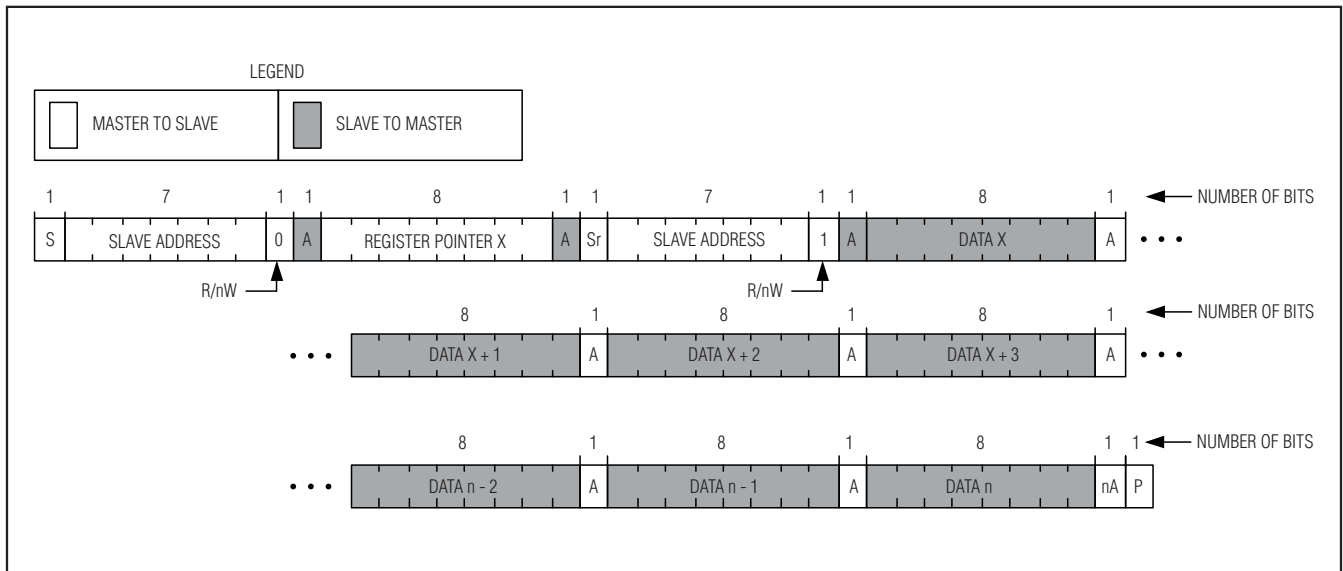

Figure 7. Read from Sequential Registers Format
Figure 7 shows the protocol for reading from sequential registers. This protocol is similar to the read byte protocol except that the master issues an acknowledge to signal the slave that it wants more data. When the master has all the data, it issues a not-acknowledge (NA) and a STOP condition (P) to end the transmission. The continuous read from sequential registers protocol is as follows:
- 1) The master sends a START (S) command.
- 3) The addressed slave asserts an acknowledge (A) by pulling SDA low.
- 10) The master issues an acknowledge (A) signaling the slave that more data is needed.